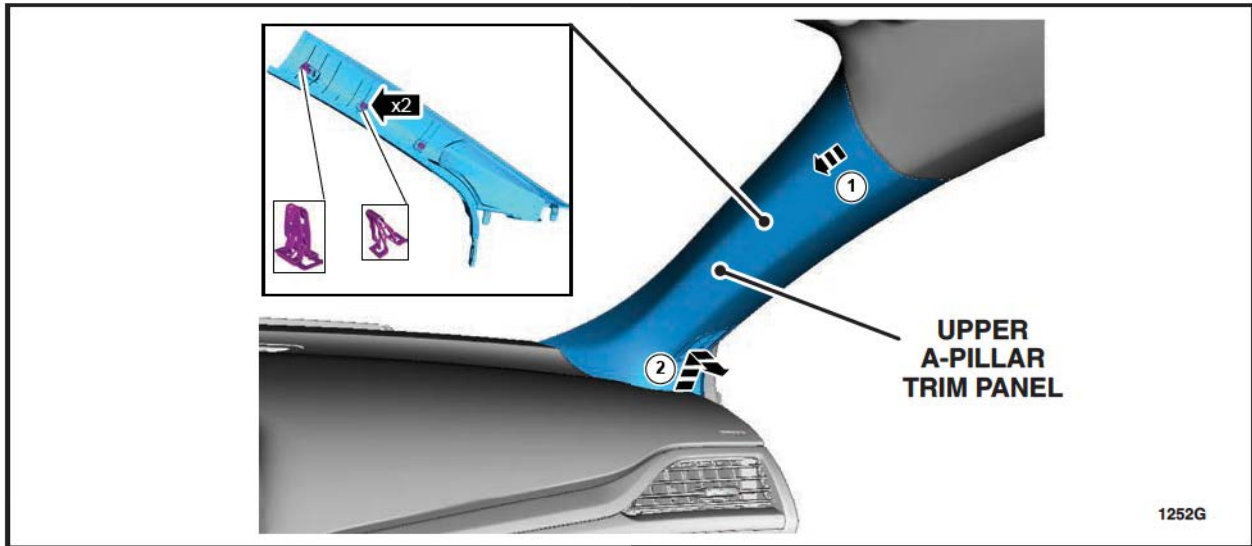

FIGURE 5
5. Remove the upper RH and LH A-pillar trim panels. See Figure 5.